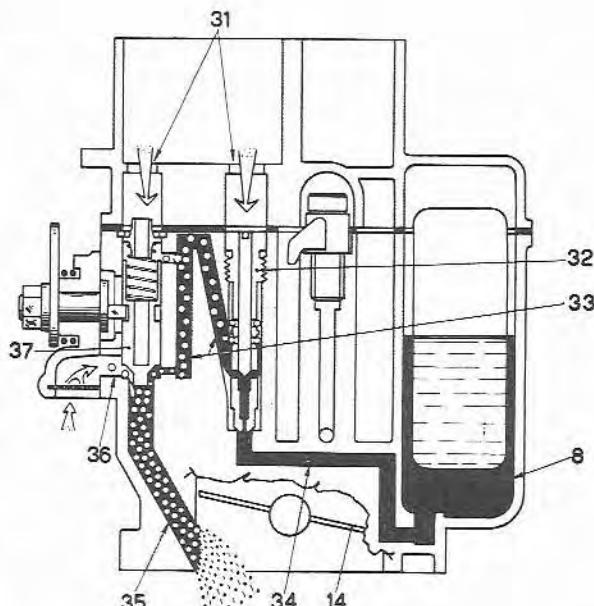

Fig. 13.1 Cold starting phase (Sec 3)
Refer to Fig. 13.1 and note that when the choke cable is pulled, the starting device operating lever turns the control shafts which lift the starting valves off their seats. Fuel from the float chamber (8) is drawn through channels (34) into the starting jets (32) where it is emulsified with air entering through the top of the starting jets (32). The mixture is then drawn through channels (33) where it is further emulsified with air from the hole (31). After passing the starting valves (37) where additional air from holes (36) weakens the mixture, the final mixture is drawn through channels (35) into the engine below the throttle valves (14).